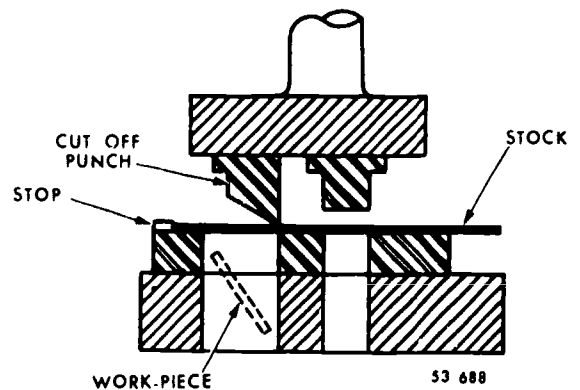

Figure 1-34 Trip stop
**Location of Stock in Dies.** When stock is fed into a press, some method must be used to locate the stock in the proper place. The simplest method is the use of a stop pin, but it has the disadvantage of requiring an operator with considerable skill. Trip dogs are frequently used to determine the amount of the material that should move forward. Figure 1-33 illustrates a typical trip dog arrangement. As the stock is fed forward, the pawl rises on the ratchet principle; then the stock is pulled back, and the pawl drops and locates the stock against the vertical surface of the pawl. Automatic stock stops are used extensively. They are controlled by the action of the punch as it descends or rises. There are many applications of automatic stops designed for specific jobs. If the workpiece has the same width as the stock and the feed is from one side without having a skeleton of scrap material pass out the other side, a shoulder stop is the most effective type. This stop is used on progressive dies where the last operation is a cutoff or trimming one. Figure 1-34 illustrates one of several shoulder stops. Note the indicated use.